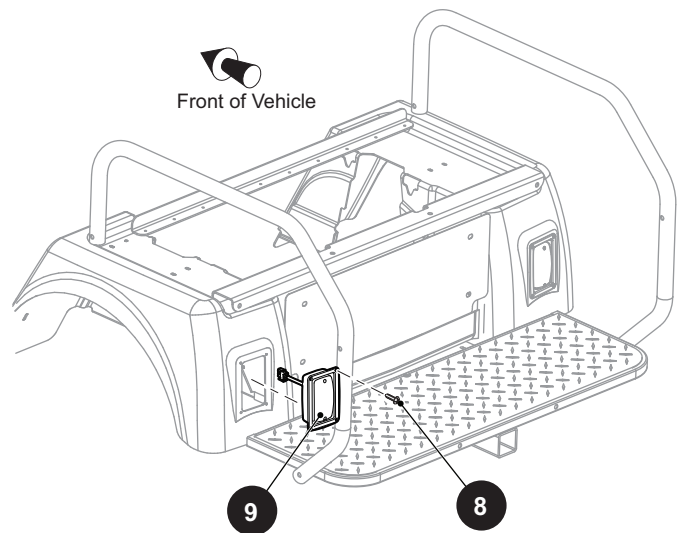

Fig. 7 Tail Light Replacement
1. Drill out the rivets (8).
2. Disconnect the wiring harness from the tail light assembly (9).
4. Install new rivets (Ref. Fig. 7).